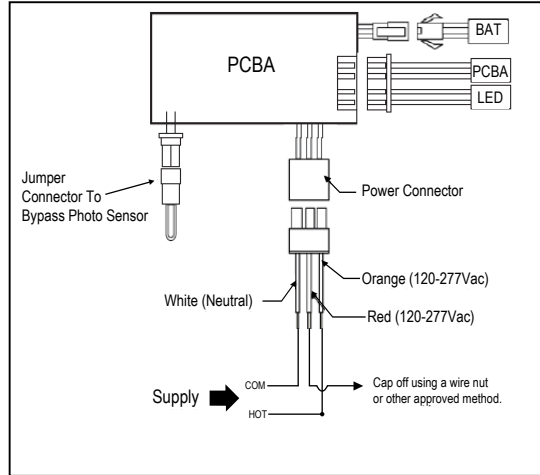

Figure 5
- b. Normally off – Do not connect red wire, cap off. Unit will illuminate in emergency mode only (see Figure 5).